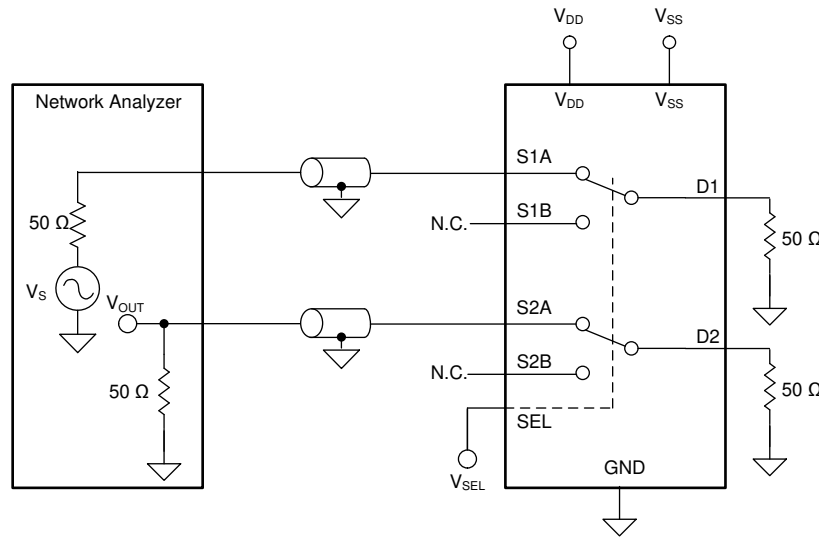

图 7-9. Inter-Channel Crosstalk Measurement Setup
2. Inter-channel crosstalk: the voltage at the source pin (S_x) of an on-switch input, when a 1-VRMS signal is applied at the source pin of an on-switch input in a different channel, as shown in 图 7-9.